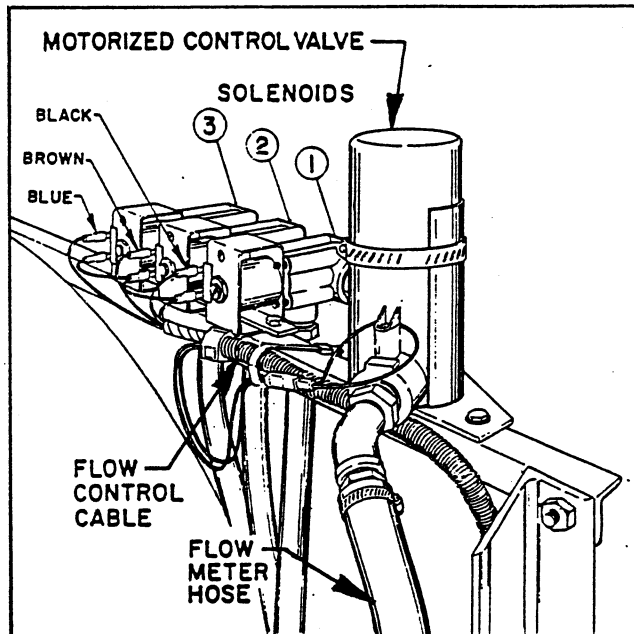

FIG. 7
CONTROL VALVE ASSEMBLY: Apply thread sealer and install the fittings used to connect the Motorized Control Valve to the Solenoids. Install the 1" hose barb into the Control Valve and the 3/4" barbed elbow into the Solenoid. See FIG. 7.
■ Slide the Solenoid Mounting Strap into position and mount the complete Control Valve and Solenoid Assembly to the Cross Support as shown in FIG. 7. Use four 5/16" x 1" hex hd cap screws with washers below the screw head, the Strap and the Cross Support.